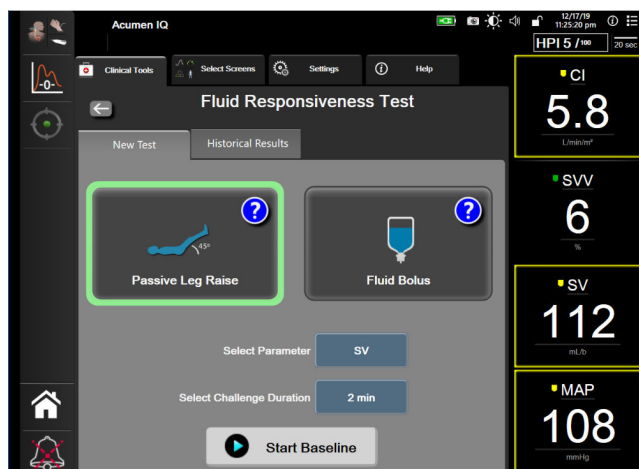

Figure 14-17: Fluid Responsiveness Test – New Test Screen
- On the **New Test** tab (see Figure 14-17 on page 319), touch the desired test type: **Passive Leg Raise** or **Fluid Bolus**.